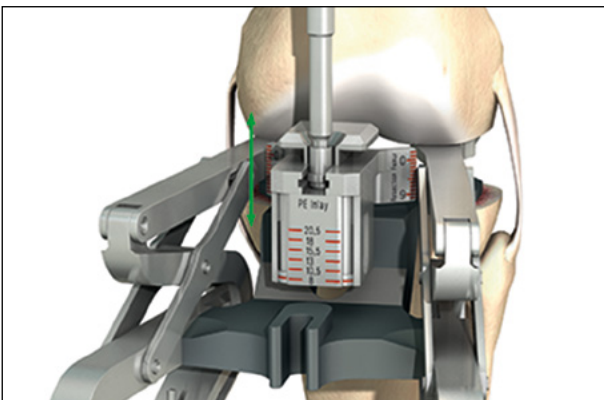

Fig. 19 Adjusting the Inlay
- If the resection level is reading <0 mm adjust the Inlay thickness with the set screw (Fig. 19)